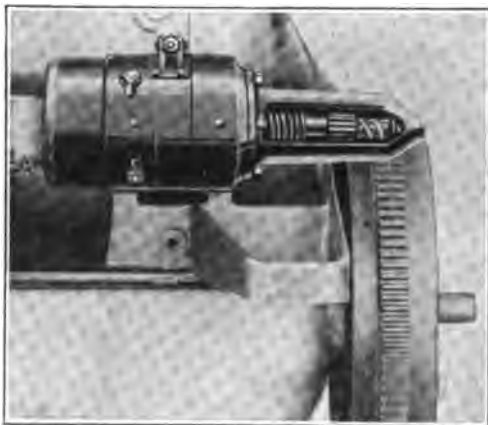

Fig. 165. Automatic Engagement and Release of Starting Motor, Overland Engine
**Automatic Engagement.** *Auto-Lite Type.* Fig. 165 illustrates an improvement on the foregoing method, which eliminates the necessity of mechanically engaging the starting pinion with the flywheel. This is an Auto-Lite generator on an Overland six motor. In starting, the depression of the pedal cuts in a resistance in the same manner, at first, as it would not only be unsafe to send the full strength of the current through the motor before it picked up the load, but it would also be impossible to mesh the pinion at full speed. In this starting motor, the pinion is cut on a sleeve surrounding the armature shaft of the motor, and this sleeve is normally held out of engagement by the springs shown.